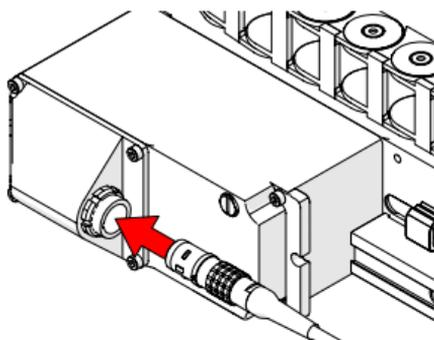

Fig. 41 - Plug raster arm cable into raster connector
1. Plug the supplied raster arm cable into the raster arm's connector (Fig. 41).